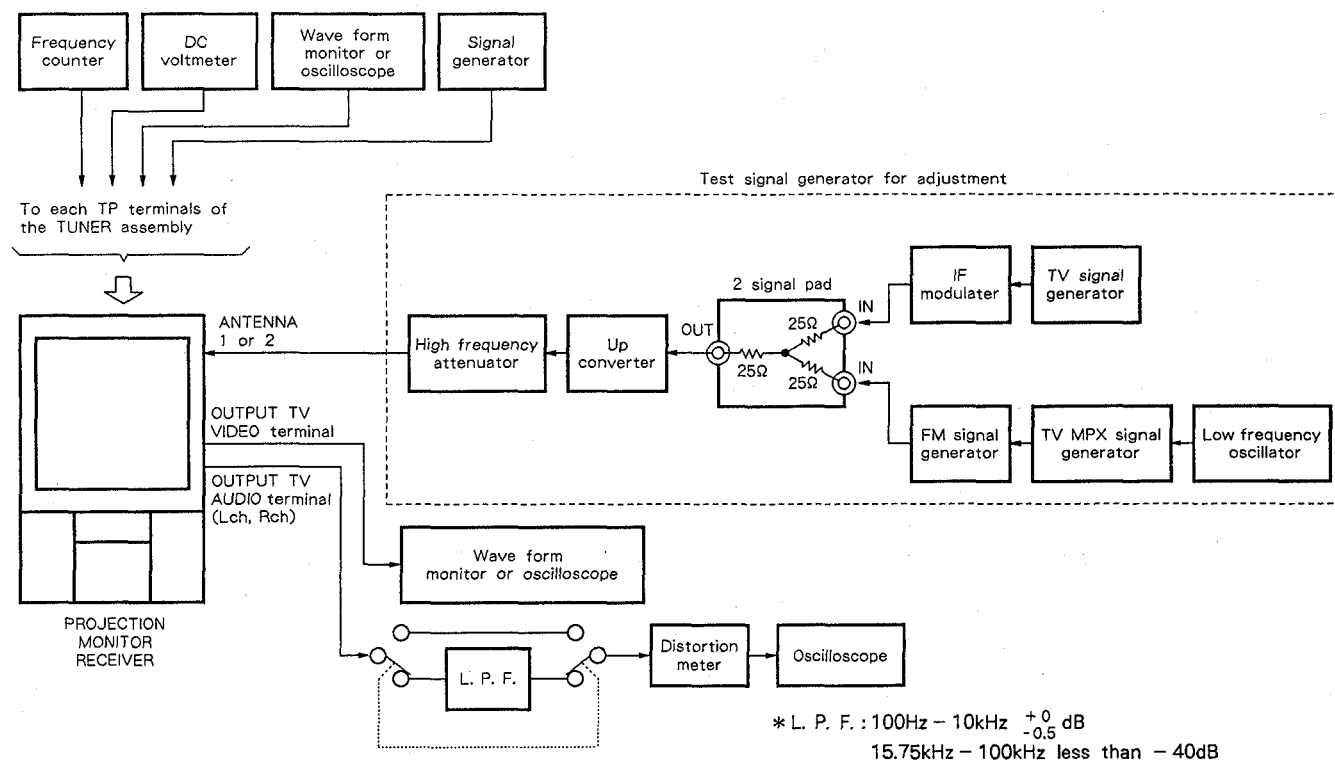

Fig. 9-1 Connection diagram when adjusting the tuner section
- Connection diagram is referred to Fig. 9-1.